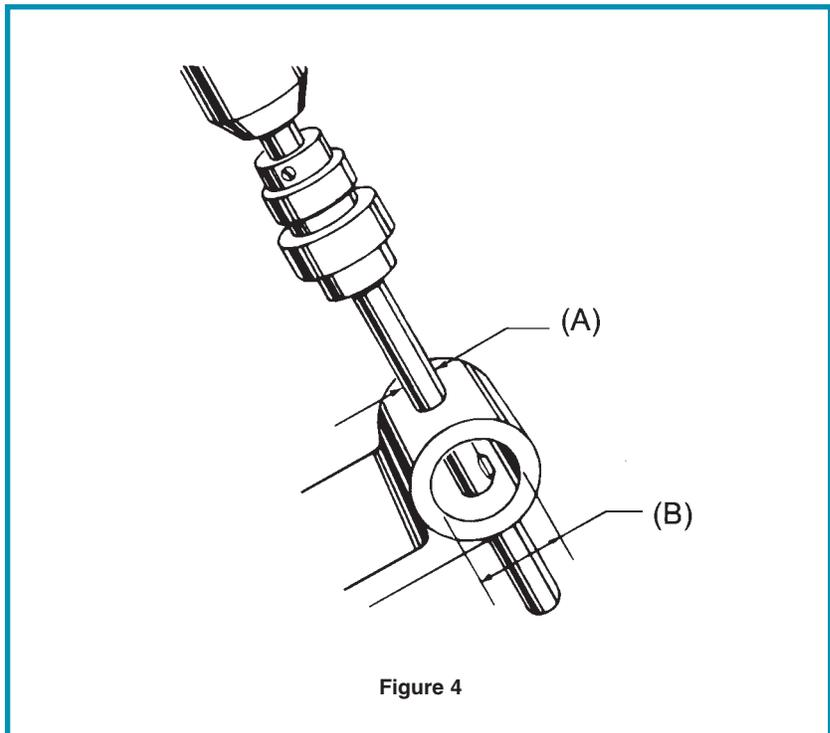

Figure 4
\*\*Used when larger hole is between 2-3/4 to 6 diameters greater than smaller hole. Please contact Cogsdill for complete tool and spare part numbers. See Figure 4 on page 27 for reference.
*Standard blades* may be used for intersecting hole applications where the larger hole “B” is 12 or more times *greater* than the smaller hole “A” (refer to Figure 4).